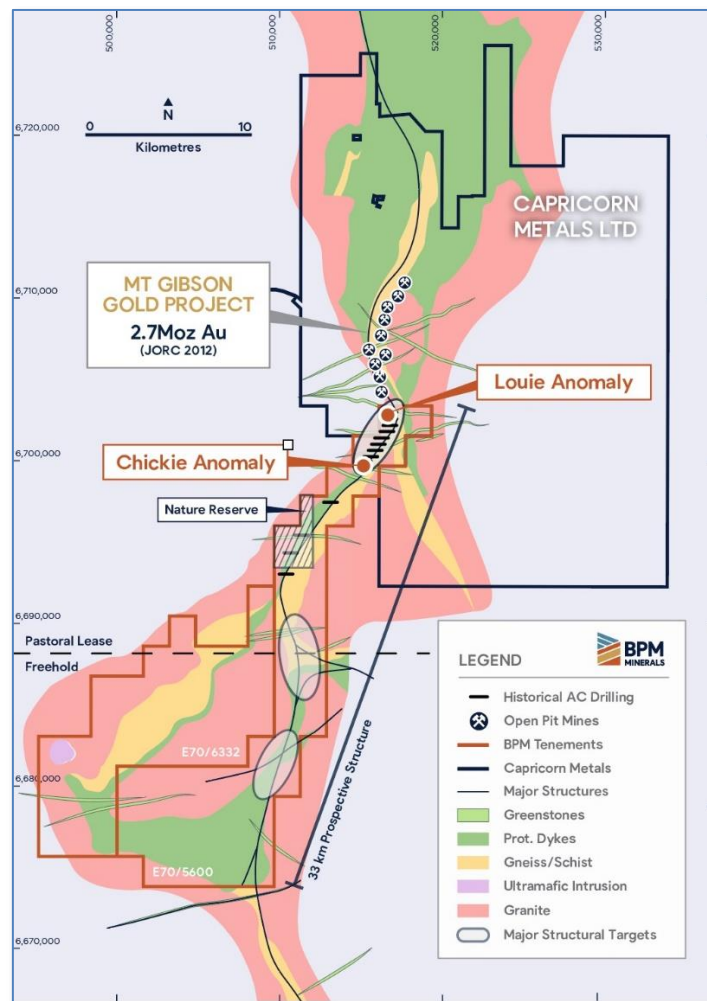

Figure 1 - BPM's Claw Gold Project, located in Western Australia's Murchison Region.
- Extensive Aircore (AC) drilling program to commence in Q2 2023.
- Claw immediately along strike of Capricorn Metals (ASX: CMM) 2.75Moz Mt Gibson Gold Project (Fig.1).